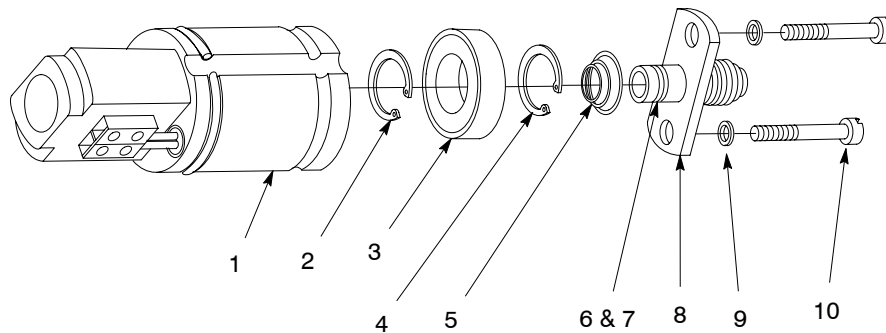

Figure 38 Thrust Bearing Assembly
6. Reassemble the thrust bearing assembly as shown in Figure 38.